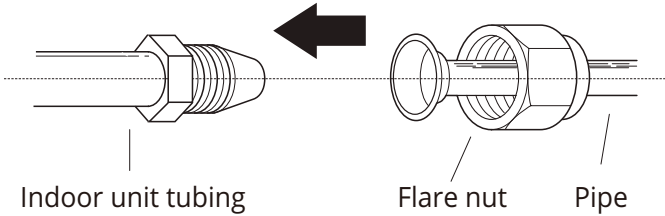

Fig 5.7
- Align the center of the two pipes that you will connect. See Fig. 5.7.